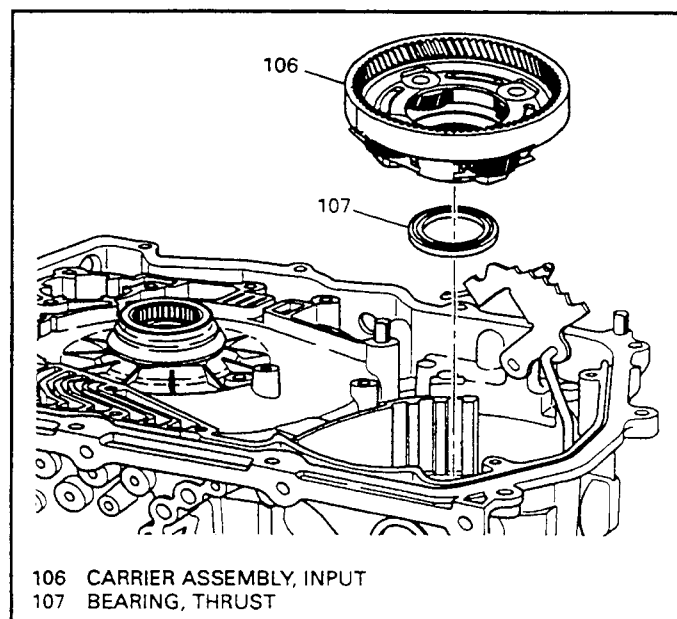

Figure 124
6. Install reaction ring gear and the input carrier assembly into the transaxle by rotating into the input internal ring gear (See Figure 124).